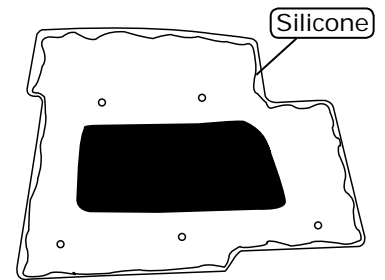

Figure 1
1. On a workbench, install (2) heater fittings with properly lubricated O-rings (See Lubricating O-rings, Page 18 and Photo 1, below).
2. Install the evaporator front & rear brackets onto the evaporator, and secure them using (5) 1/4-20 x 1/2" serrated hex cap screws as shown in Photos 2 and 3, below.
3. Install (2) 1/4-20 x 1 1/2" studs onto the evaporator rear bracket as shown in Photo 4, below.
4. Lay the evaporator sub case on the passenger side floorboard. Install the A/C & heater hoses on the evaporator as shown in Figure 1, Page 16, and A/C hose installation instructions on Page 18. **NOTE: Wrap the #10 fitting connections with press tape (See Figure 1, Page 16).**